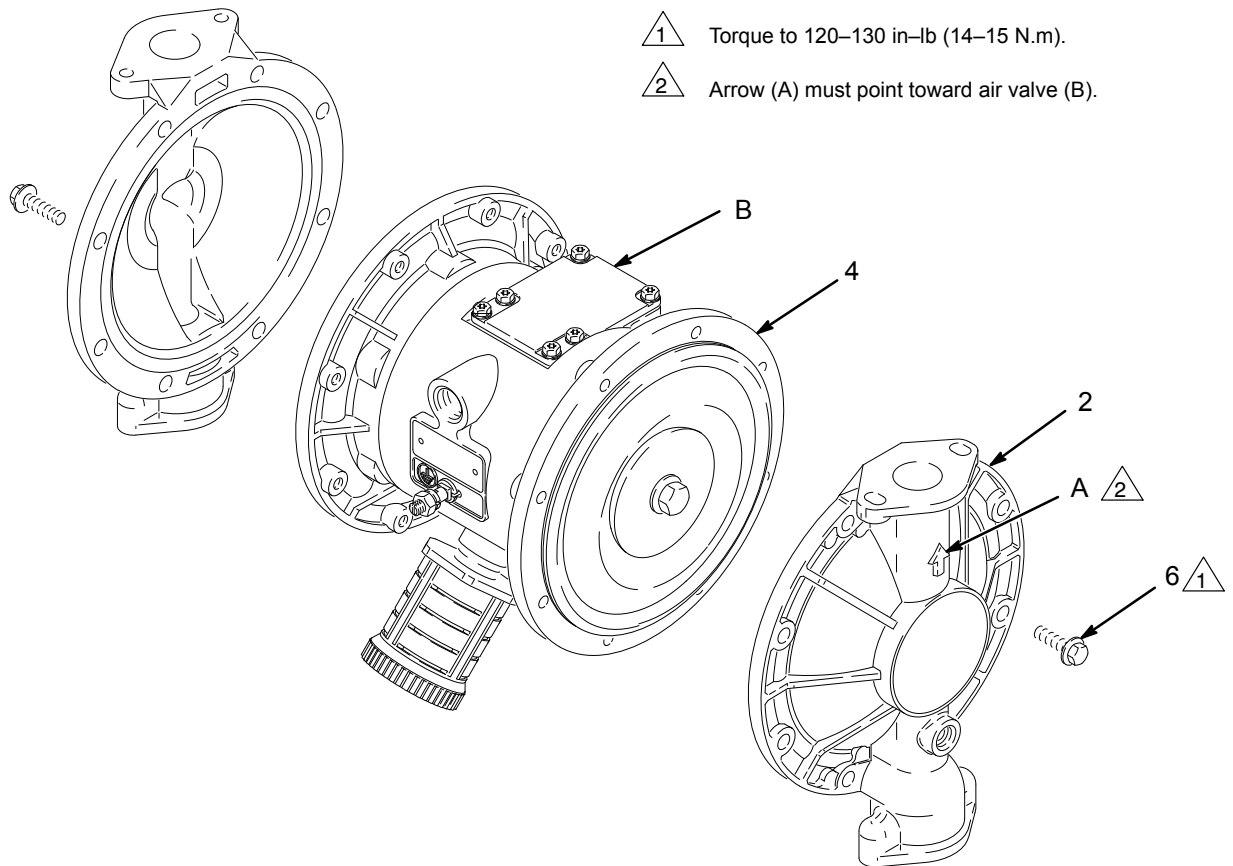

Fig. 13
3. Using a 10 mm socket wrench, remove the screws (6) holding the fluid covers (2) to the air covers (4). Pull the fluid covers (2) off the pump. See Fig. 13.
**NOTE:** *On Models 236–260, 236–261 and 236–262 only*, the fluid side diaphragm plate (44) is stainless steel. This plate **is not** stamped with its part number. Be sure to install this plate on the fluid side of the diaphragm.
- c. *On Models 236–250, 236–253 and 236–260 only*, install the PTFE diaphragm (19\*). Make certain the side marked AIR SIDE faces the center housing (5).
- d. Install the diaphragm (29\*) on the bolt. Make certain the side marked AIR SIDE faces the center housing (5).
- e. Install the air side diaphragm plate (20) so the rounded side faces the diaphragm (29). This plate is used on all models, and is stamped with its part number.
- f. Screw the bolt (21) into the shaft (24) hand-tight.
3. Grease the length and ends of the diaphragm shaft (24), and slide it through the housing (5).
5. Hold one shaft bolt (21) with a wrench and torque the other bolt to 20–25 ft–lb (27–34 N.m).
6. Align the fluid covers (2) and the center housing (5) so the arrows (A) on the covers face the same direction as the air valve (B). Secure the covers with the screws (6), handtight. See Fig. 13. Using a 10 mm socket wrench, torque the screws oppositely and evenly to 120–130 in–lb (14–15 N.m).